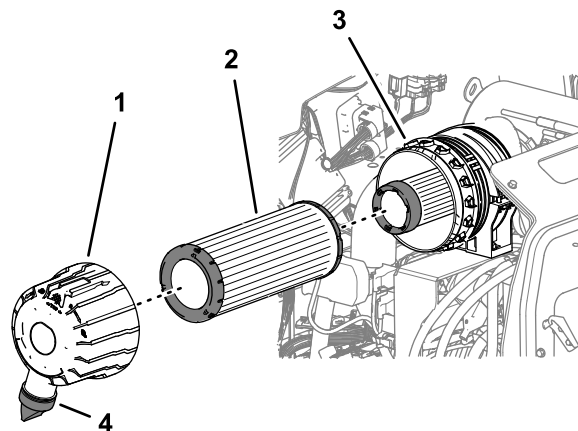

Figure 52
3. Remove the primary air filter (Figure 52).